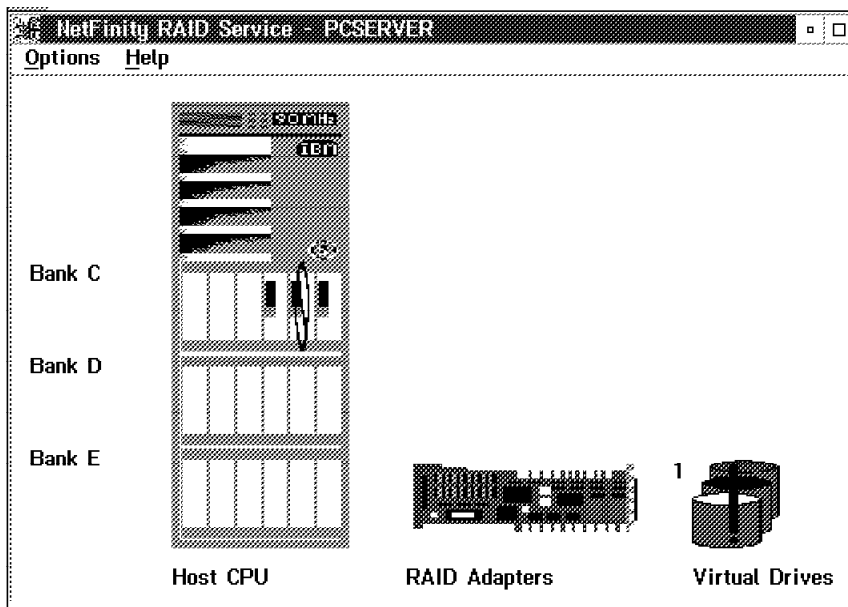

Figure 132. NetFinity RAID Service - Disk Failure
5. The failure also can be checked using the NetFinity RAID service (see Figure 132).